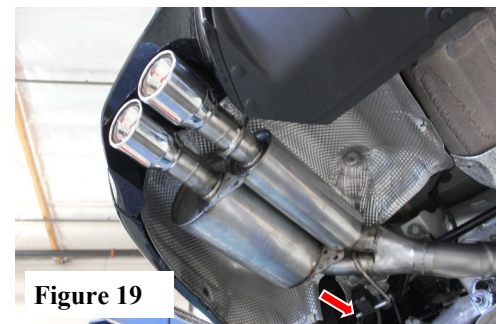

Figure 19
8. Place a clamp on front of L/H Muffler Assembly. Carefully insert hangars into rubber isolators. DO NOT TIGHTEN CLAMP. (See Fig. 19 & 20)